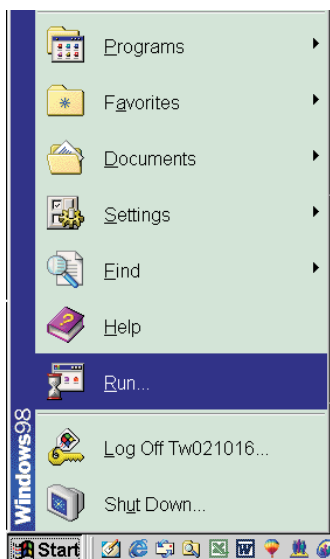

Fig. 5
2. Click **Start** , choose Run at start menu of Windows as shown In Fig. 5.